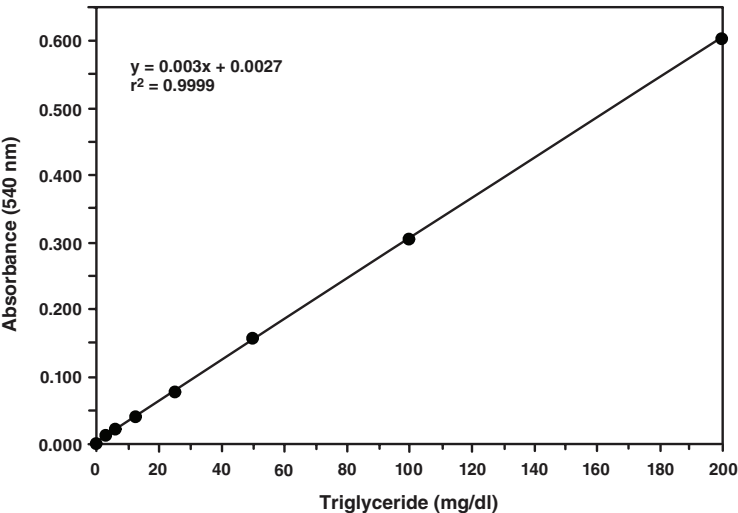

Figure 3. Triglyceride standard curve
3. Graph the corrected absorbance values (from step 2 above) of each standard as a function of the final triglyceride concentration (mg/dl) (see Table 1, page 11). A typical triglyceride standard curve is shown in Figure 3 on page 17.